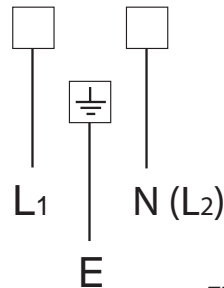

Fig. 14.1
- The new supply cable, of suitable type and section, must be connected to the terminal board following the diagram in fig. 14.1.